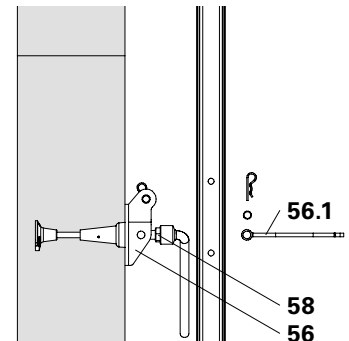
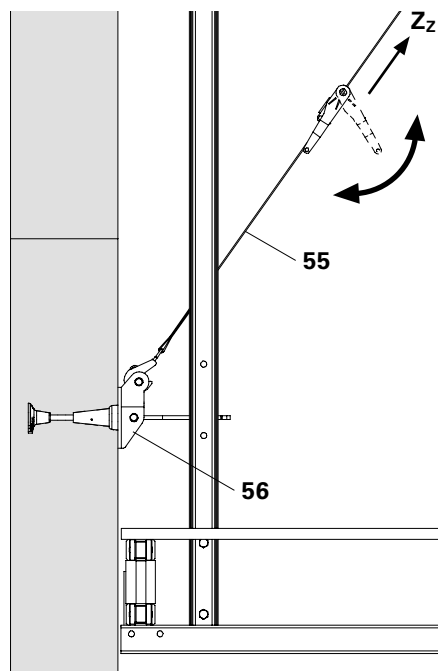

Fig. B1.32
Fig. B1.33
4. Fix Bracing Shoe Wall CB M24 (56) to the cone using Bolt ISO 4014 M24 x 70-10.9 (58) SW 36 after the bolts have been removed from the tension plate (56.1). Re-insert tension plate through the platform post and re-bolt in the Bracing Shoe Wall CB M24 (56). (Fig. B1.32)
5. Unroll Tension Belt L = 5.70 m, 2.5 t (55) from the ratchet.
6. Attach Tension Belt L = 5.70 m, 2.5 t (55) below in the Bracing Shoe Wall CB M24 (56), and tighten. (Fig. B1.33)
4. Fix Bracing Shoe Wall CB M24 (56) to the cone using Bolt ISO 4014 M24 x 70-10.9 (58) SW 36 after the bolts have been removed from the tension lug (56.1) of the Bracing Shoe. Re-insert tension lug through the platform post and re-bolt in the Bracing Shoe Wall CB M24 (56). (Fig. B1.32)